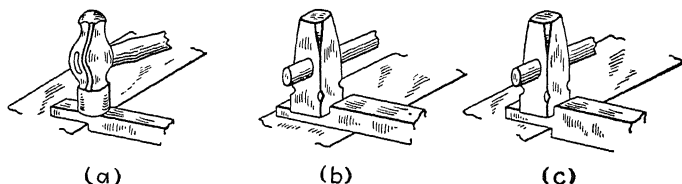

Fig. 253.—Shouldering. *a*, Shoulder on one side, smaller stock; *b*, shoulder on one side, heavier stock; *c*, double shoulder.
**308. Shoulders.**—When a piece is to be drawn out to a shoulder on one side only and the stock is not too large, it may be forged with a hammer as shown in *a* (Fig. 253). The shoulder location point of the heated metal is placed directly over the inside edge of the anvil. If it spreads too much as it is being drawn out, hammer the edges occasionally to keep working toward the general shape required in the finished forging. For the larger bars, as in *b* (Fig. 253), the set hammer
To forge shoulders on both sides, place the heated bar on the anvil with the shoulder location point directly over the inside edge of the anvil, and hold the set hammer with its edge directly above, as shown in *c* (Fig. 253). Give the work a half turn occasionally to keep both sides even.
to about the size required. This is done in a manner similar to that for the shoulder on both sides, (c, Fig. 253). That is, it is forged with the shoulder at the edge of the anvil and the edge of the set hammer directly above. If the reduced portion is to be cylindrical, remember that it is first forged square, then octagonal, and finally rounded.